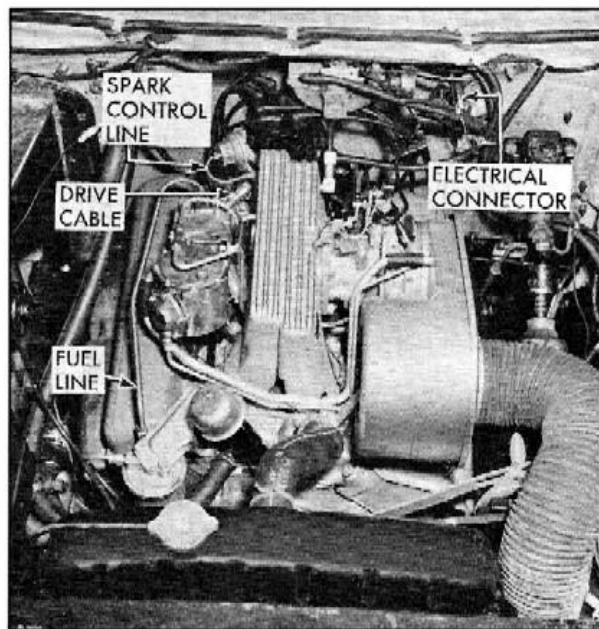

Fig. 36 Fuel Injection Installed on Engine
2. Connect distributor spark control pipe, Fig. 36, into 45-degree fitting in air meter, then tighten fitting at distributor end of pipe.